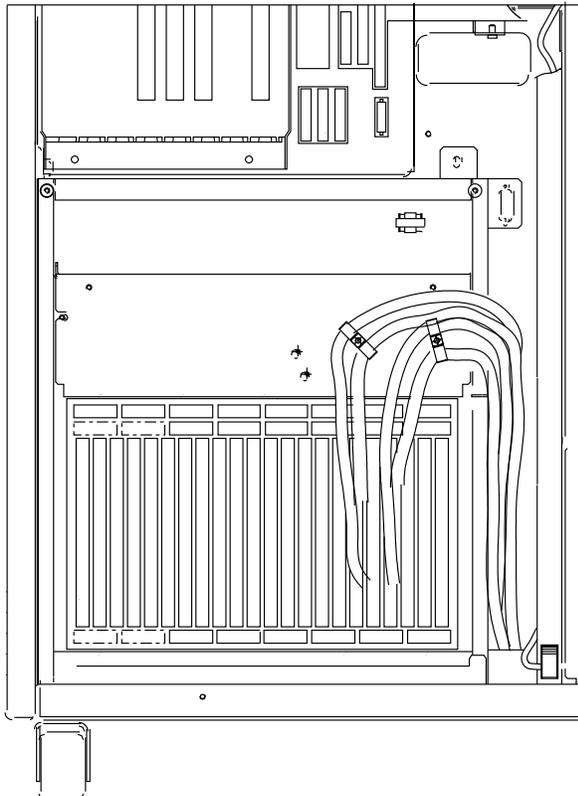
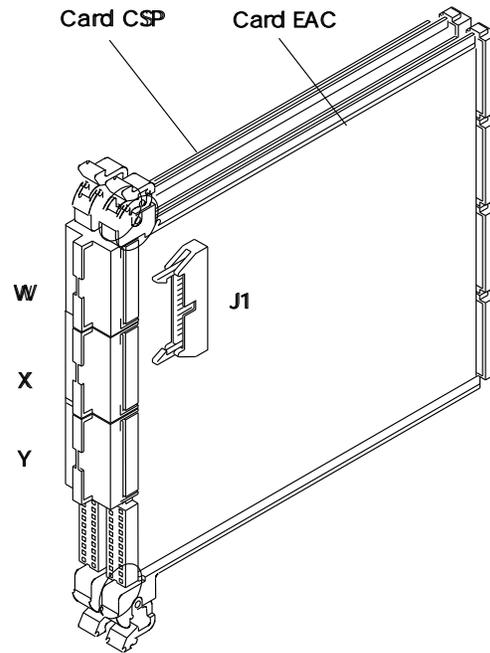

Figure 4-88. ESS Cables
Figure 4-89. EAC Card
6. Referring to Figure 4-89 on page 4-65 and to Figure 4-88 on page 4-65 remove the cable from EAC to tailgate as follow:
- d. Remove the three non-polarized top card connector from positions W, X, and Y. Refer to Figure 4-89 on page 4-65.